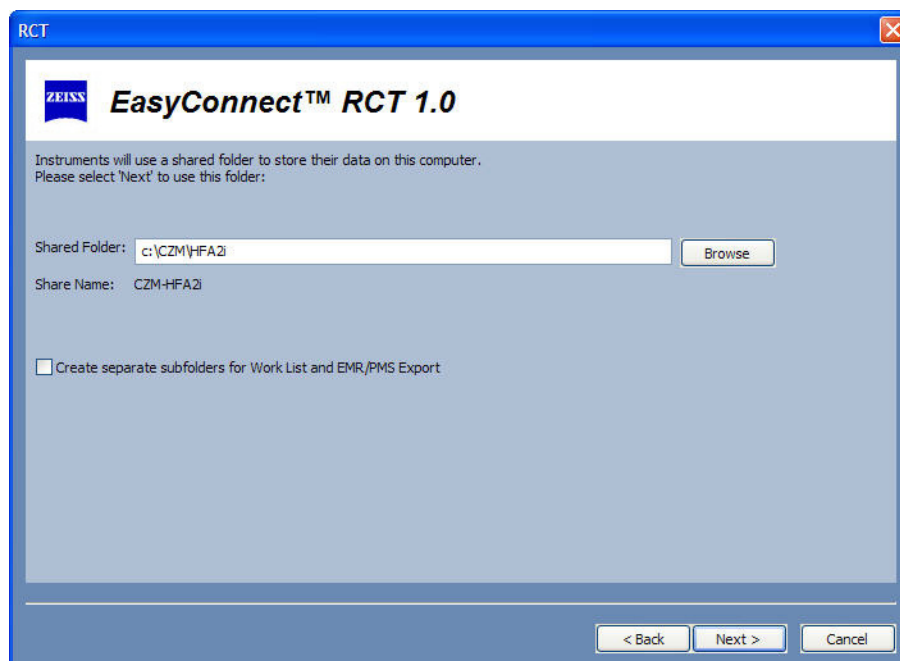

Figure G.30 Enter or Browse for the Folder to Share
- 6 If you previously selected a shared folder type of HFA setup, enter the path of the shared folder or select the BROWSE button to locate and specify the shared folder. Select **Create separate subfolders for Work List and EMR/PMS Export** if you want to have separate subfolders inside the shared folder for those features (Figure G.30). This may be required by some EMR products.